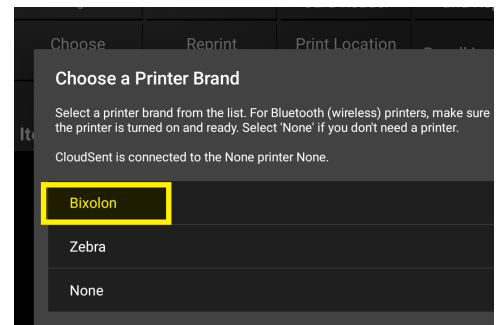

Figure 31
3. Select Bixelon in the dialogue box (Figure 31).